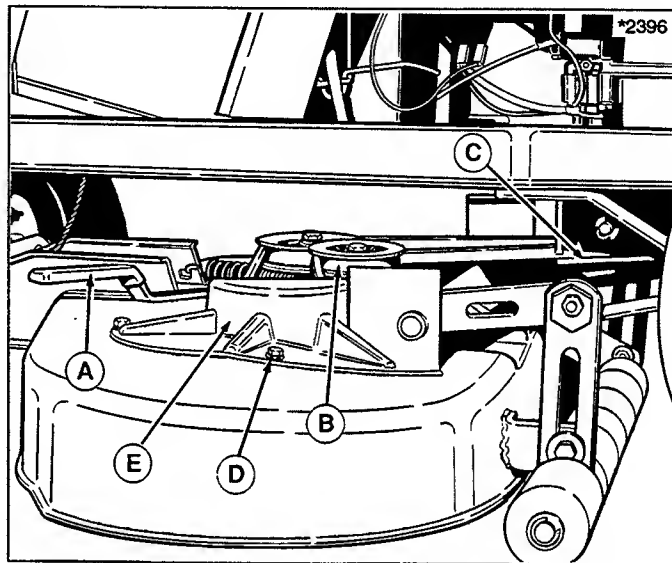
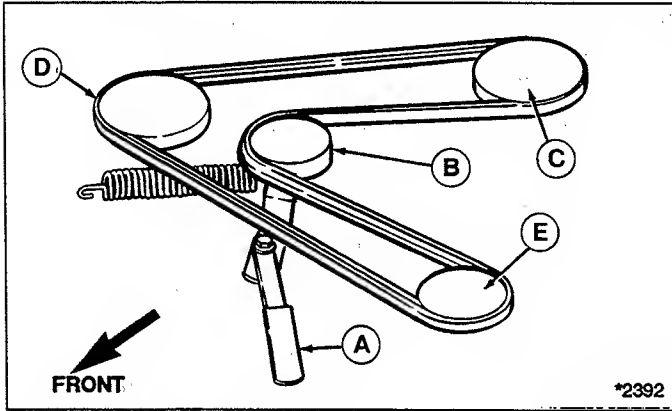

Figure 20.
Figure 21. 34" Belt Pattern
2. If mower is not removed, place mower in low cut position. Push idler pulley arm (A, figure 20) away from you to relieve belt tension. Remove belt from idler pulley (B) and electric clutch pulley (C).
3. Remove the three capscrews (D) securing the left hand arbor cover (E).
4. Remove old belt from arbor pulleys and replace with new belt. Refer to figure 21 for belt pattern. Make sure V-side of belt runs in all arbor pulley grooves and flat side of belt runs against idler pulley.
7. Recheck belt pattern as shown in figure 21 and mower installation.